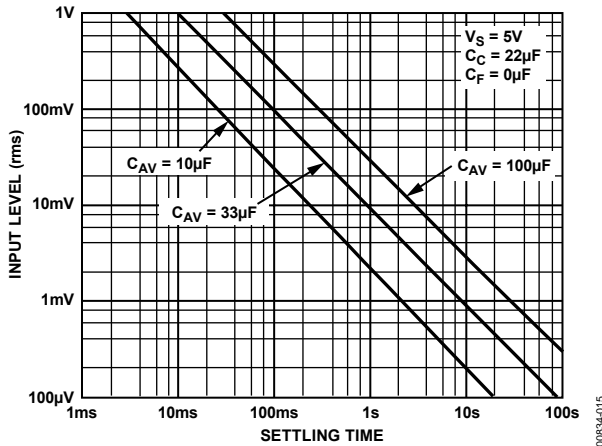

Figure 16. RMS Input Level for Various Values of  $C_{AV}$  vs. Settling Time
**CALCULATING SETTling TIME USING FIGURE 16**
Figure 16 can be used to closely approximate the time required for the AD736 to settle when its input level is reduced in amplitude. The net time required for the rms converter to settle is the difference between two times extracted from the graph—the initial time minus the final settling time. As an example, consider the following conditions: a 33  $\mu\text{F}$  averaging capacitor, a 100 mV initial rms input level, and a final (reduced) 1 mV input level. From Figure 16, the initial settling time (where the 100 mV line intersects the 33  $\mu\text{F}$  line) is approximately 80 ms.